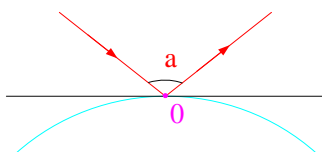
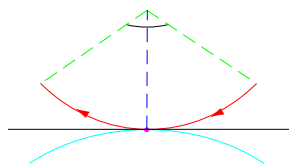
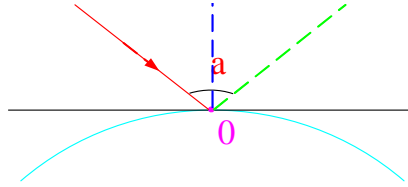

Fig. 10-3 [Lead-in line] of taper angle
Fig. 10-4 Arc [lead-in line]
Fig. 10-5 Kerf [lead-in line]
- [Angle]: the angle between the two sides of lead-in line, like the size of angle “a” in Fig. 10-2, Fig. 10-3, Fig. 10-4, Fig. 10-5.